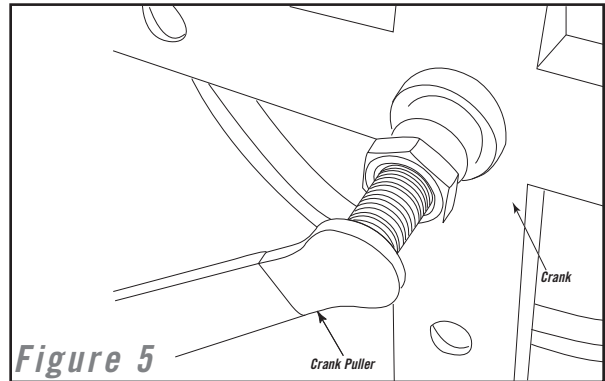

Figure 5
- 9) Thread the crank puller onto the crank axle and remove the crank arm and crank disk from the crank axle. (Figure 5)